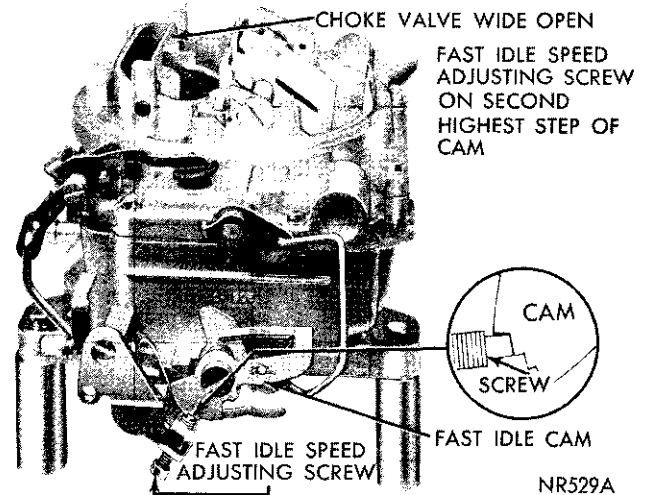

Fig. 20—Fast Idle Speed Adjustment (On Vehicle)
- (1) With engine off and transmission in **PARK** or **NEUTRAL** position open throttle slightly.
- (2) Close choke valve until fast idle screw can be positioned on the second highest speed step of fast idle cam (Fig. 20).
- (3) Start engine and determine stabilized speed. Turn fast idle speed screw **in** or **out** to secure specified speed. (Refer to Specifications).
- (4) Stopping engine between adjustments is not necessary. However, reposition fast idle speed screw on cam after each speed adjustment to provide correct throttle closing torque.